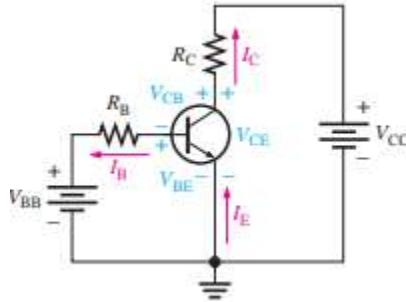

Fig. 2.5: Transistor currents and voltages
- Consider the basic transistor bias circuit configuration in Fig. 2.5. Three transistor dc currents and three dc voltages can be identified.